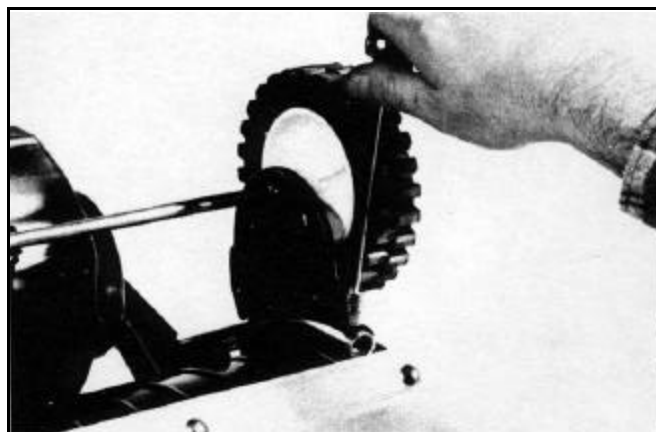

Figure 161
2. After tipping the unit forward, remove the mounting bolts retaining the wheel brackets to the lower handle (Figure 161). Inspect the axle for wear, if evident, replace.